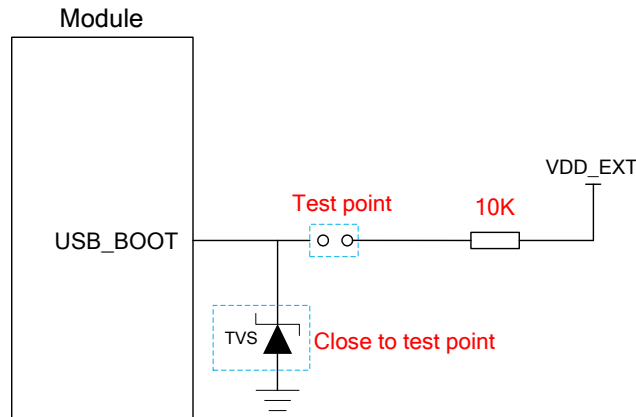

Figure 22: Reference Design of USB_BOOT Interface
3. When using MCU to control the module entering emergency download mode, please follow the above timing sequence. Connecting the test points as shown in **Figure 22** can manually force the module to enter download mode.